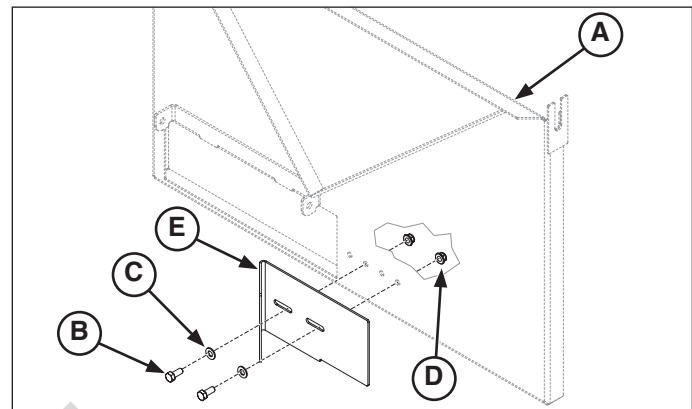

Figure 4. Assembling the Bagger Mount
1. Install two (2) 5/16" bolts (**B**, **Figure 4**) with 5/16" washers (**C**) through the block off plate (**E**) then through the bagger mount (**A**). Loosely secure with two (2) 5/16" nuts (**D**).
4. Remove the quick disconnect rod (**F, Figure 4**).